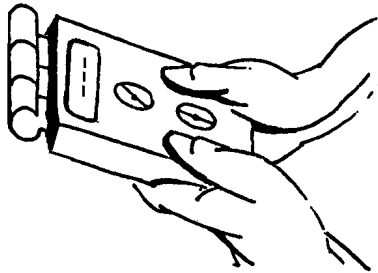

Fig. 1
Quickly switch the upper control from OFF to SETTINGS CHECK. The diode WOOD will light up. The LCD will display the density and thickness set during the previous measurements (e.g. 0.56 and 42). Hold the device in the air (fig. 1), switch the upper control knob to MEASURE. The device will calibrate automatically (the display shows - - -). The end of calibration is indicated by the number 4.0 (the lower range limit) displayed on the LCD. The device is ready for measurements.
- hold the instrument in the air (fig. 1) and set the upper control knob to MEASURE. The device will calibrate automatically (the display shows - - -). The end of calibration is indicated by the number 4.0 (the lower range limit) displayed on the LCD. The device is ready for measurements.